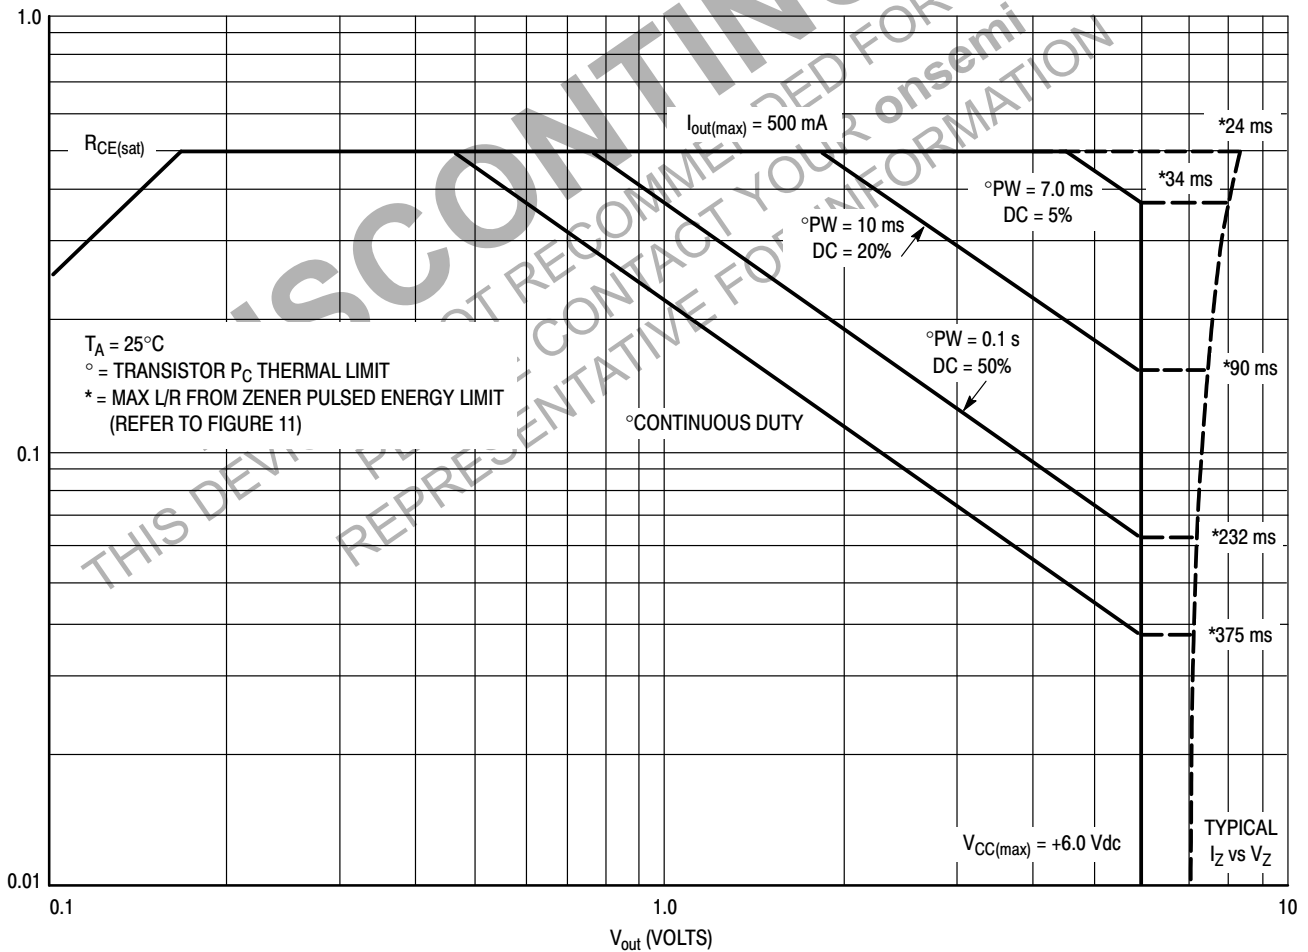
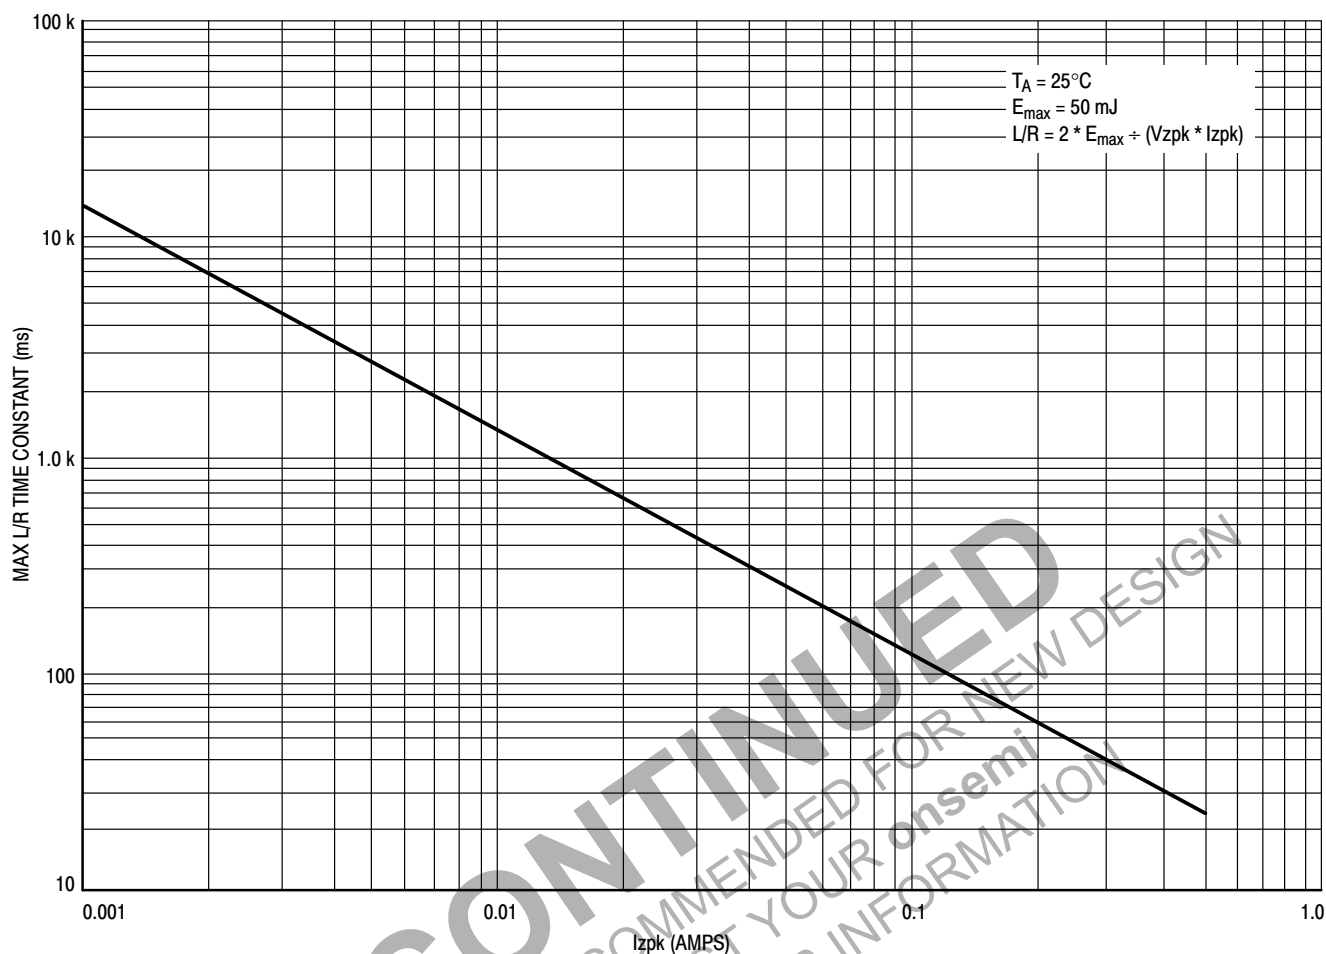

Figure 10. Safe Operating Area for MDC3105LT1
Figure 11. Zener Repetitive Pulse Energy Limit on L/R Time Constant for MDC3105LT1
Figure 10 is the Safe Operating Area (SOA) for the MDC3105. Device instantaneous operation should never be pushed beyond these limits. It shows the SOA for the Transistor "ON" condition as well as the SOA for the Zener during the turn-off transient. The max current is limited by the I_{zpk} capability of the Zener as well as the transistor in addition to the max input current through the resistor. It should not be exceeded at any temperature. The BJT power dissipation limits are shown for various pulse widths and duty cycles at an ambient temperature of $25^{\circ}C$. The voltage limit is the max V_{CC} that can be applied to the device. When the input to the device is switched off, the BJT "ON" current is instantaneously dumped into the Zener diode where it begins its exponential decay. The Zener clamp voltage is a function of that BJT current level as can be seen by the bowing of the V_Z versus I_Z curve at the higher currents. In addition to the Zener's current limit impacting this device's 500 mA max rating, the clamping diode also has a peak energy limit as well. This energy limit was measured using a rectangular pulse and then translated to an exponential equivalent using the 2:1 relationship between the L/R time constant of an exponential pulse and the pulse width of a rectangular pulse having equal energy content. These L/R time constant limits in ms appear along the V_Z versus I_Z curve for the various values of I_Z at which the P_d lines intersect the V_{CC} limit. The L/R time constant for a given load should not exceed these limits at their respective currents. Precise L/R limits on Zener energy at intermediate current levels can be obtained from Figure 11.
3. Use Figures 10 and 11 with the SOA notes above to insure that instantaneous operation does not push the device beyond the limits of the SOA plot.